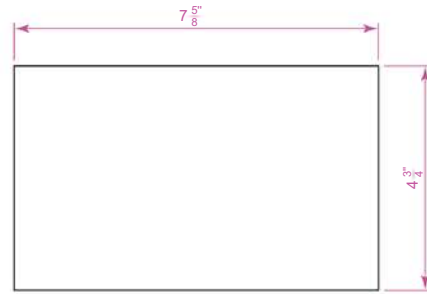

Fig. 3.29 Exercise 2
2. Construct the outline (Fig. 3.29) using the **Line** tool. The coordinate points of each corner of the rectangle will need to be calculated from the lengths of the lines between the corners.